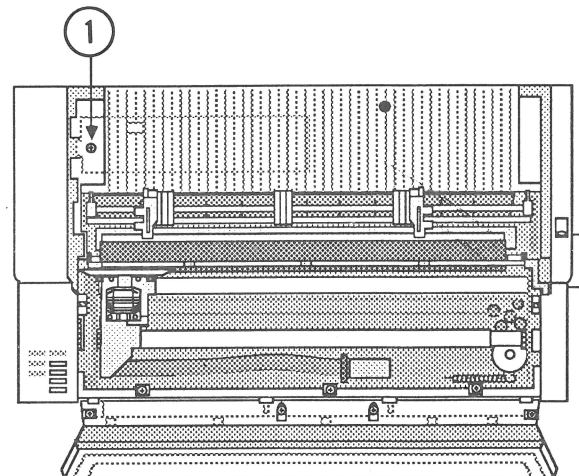

FIGURE 9
2. Remove the Phillips screw securing the option card cover to the main cover (Figure 9, #1).